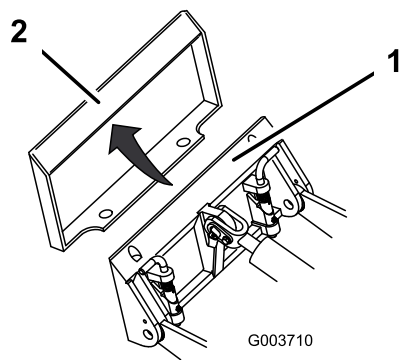

Figure 24
4. Position the mount plate into the upper lip of the attachment receiver plate (Figure 24).